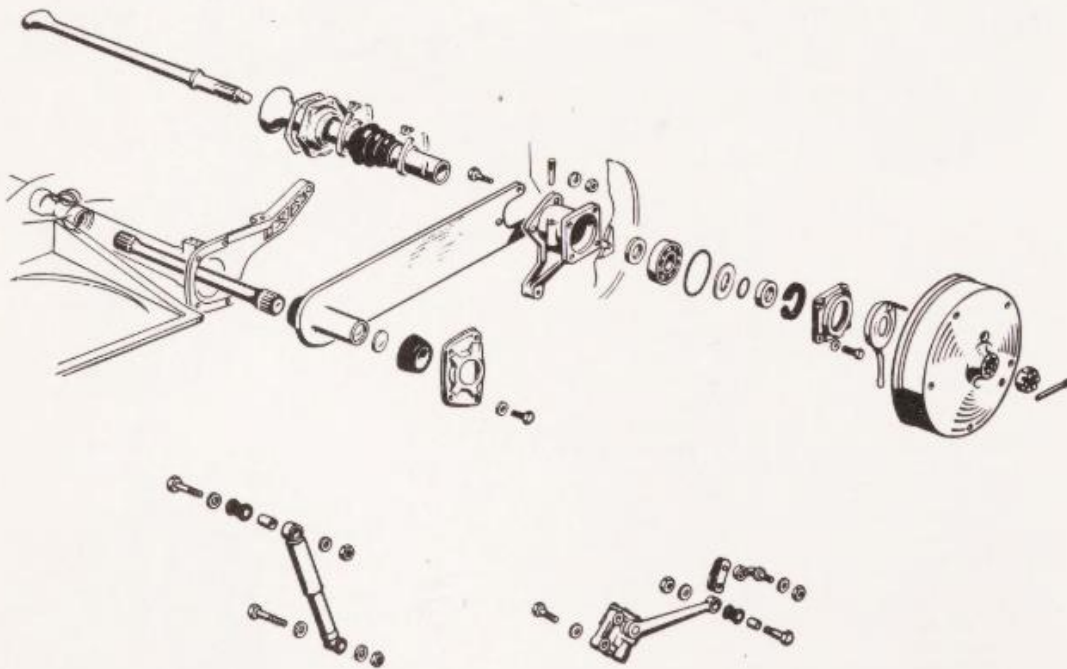

Fig. G-8. Typical trailing link type of rear suspension system used on Volkswagen through 1968 models.
Independent suspension on torque bars is used for the rear wheels on "Beetle" models through 1968. In the rear, however, the bars are shorter with one on each side, and they are round instead of square and splined on each end, Fig. G-8. Here again the bars are anchored in one end of a lever and the axles at the other end so that wheels trail as in front.
- 2 - Remove screws at rear axle shaft bearing housing, Fig. G-8, and pull axle to rear until it clears spring plate.